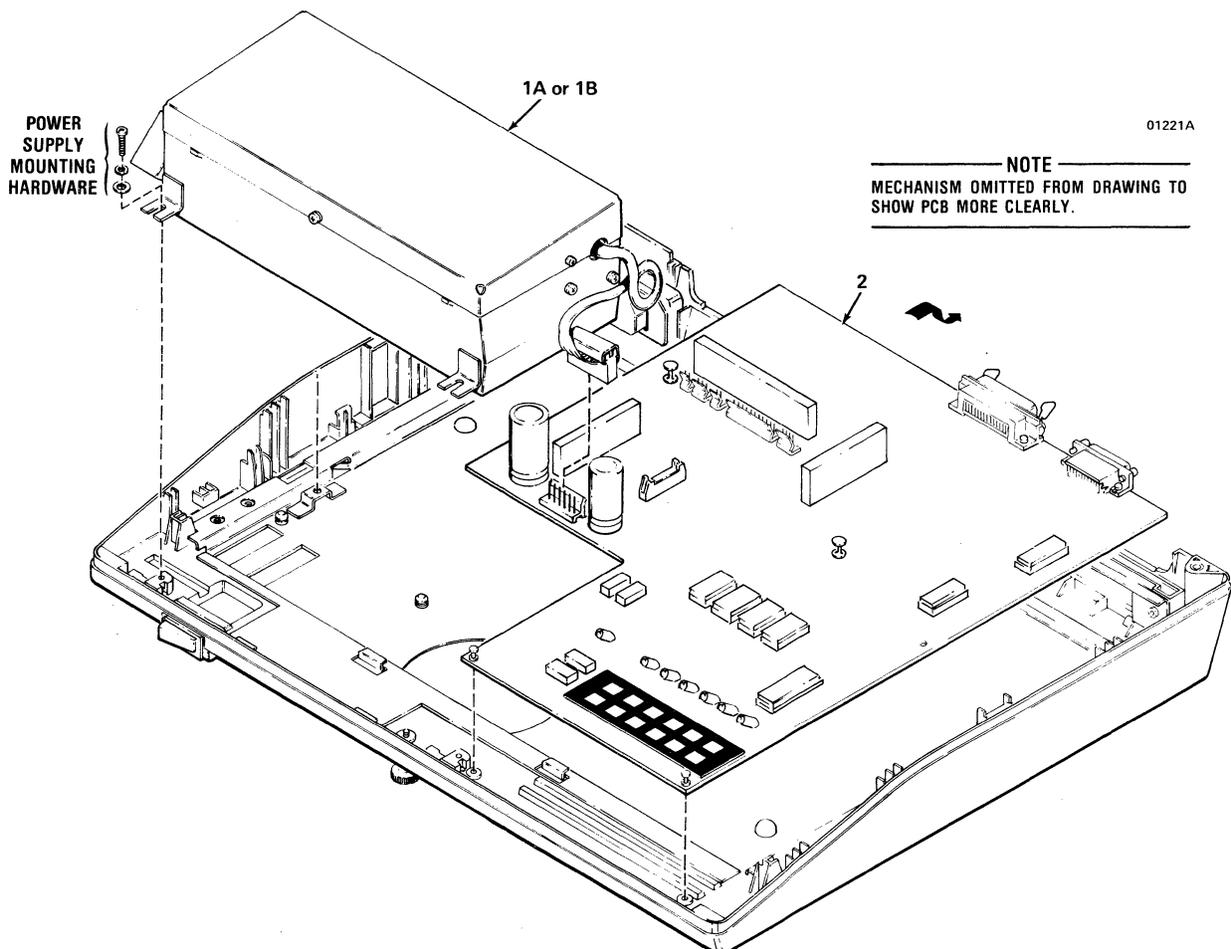

Figure 5-24 Removal/Replacement, Power Supply Assembly and Formatter/Controller PCB
The power supply assembly, item 1A or 1B of Figure 5-24, is mounted to the printer base and is removed using a Phillips head screwdriver. To remove the power supply, refer to Figure 5-24 and perform the following steps:
The Formatter/Controller pcb, item 2 of Figure 5-24, is mounted to the printer base by quick release fasteners. No tools are required to remove the pcb. To remove the Formatter/Controller pcb, refer to Figure 5-24 and perform the following steps: